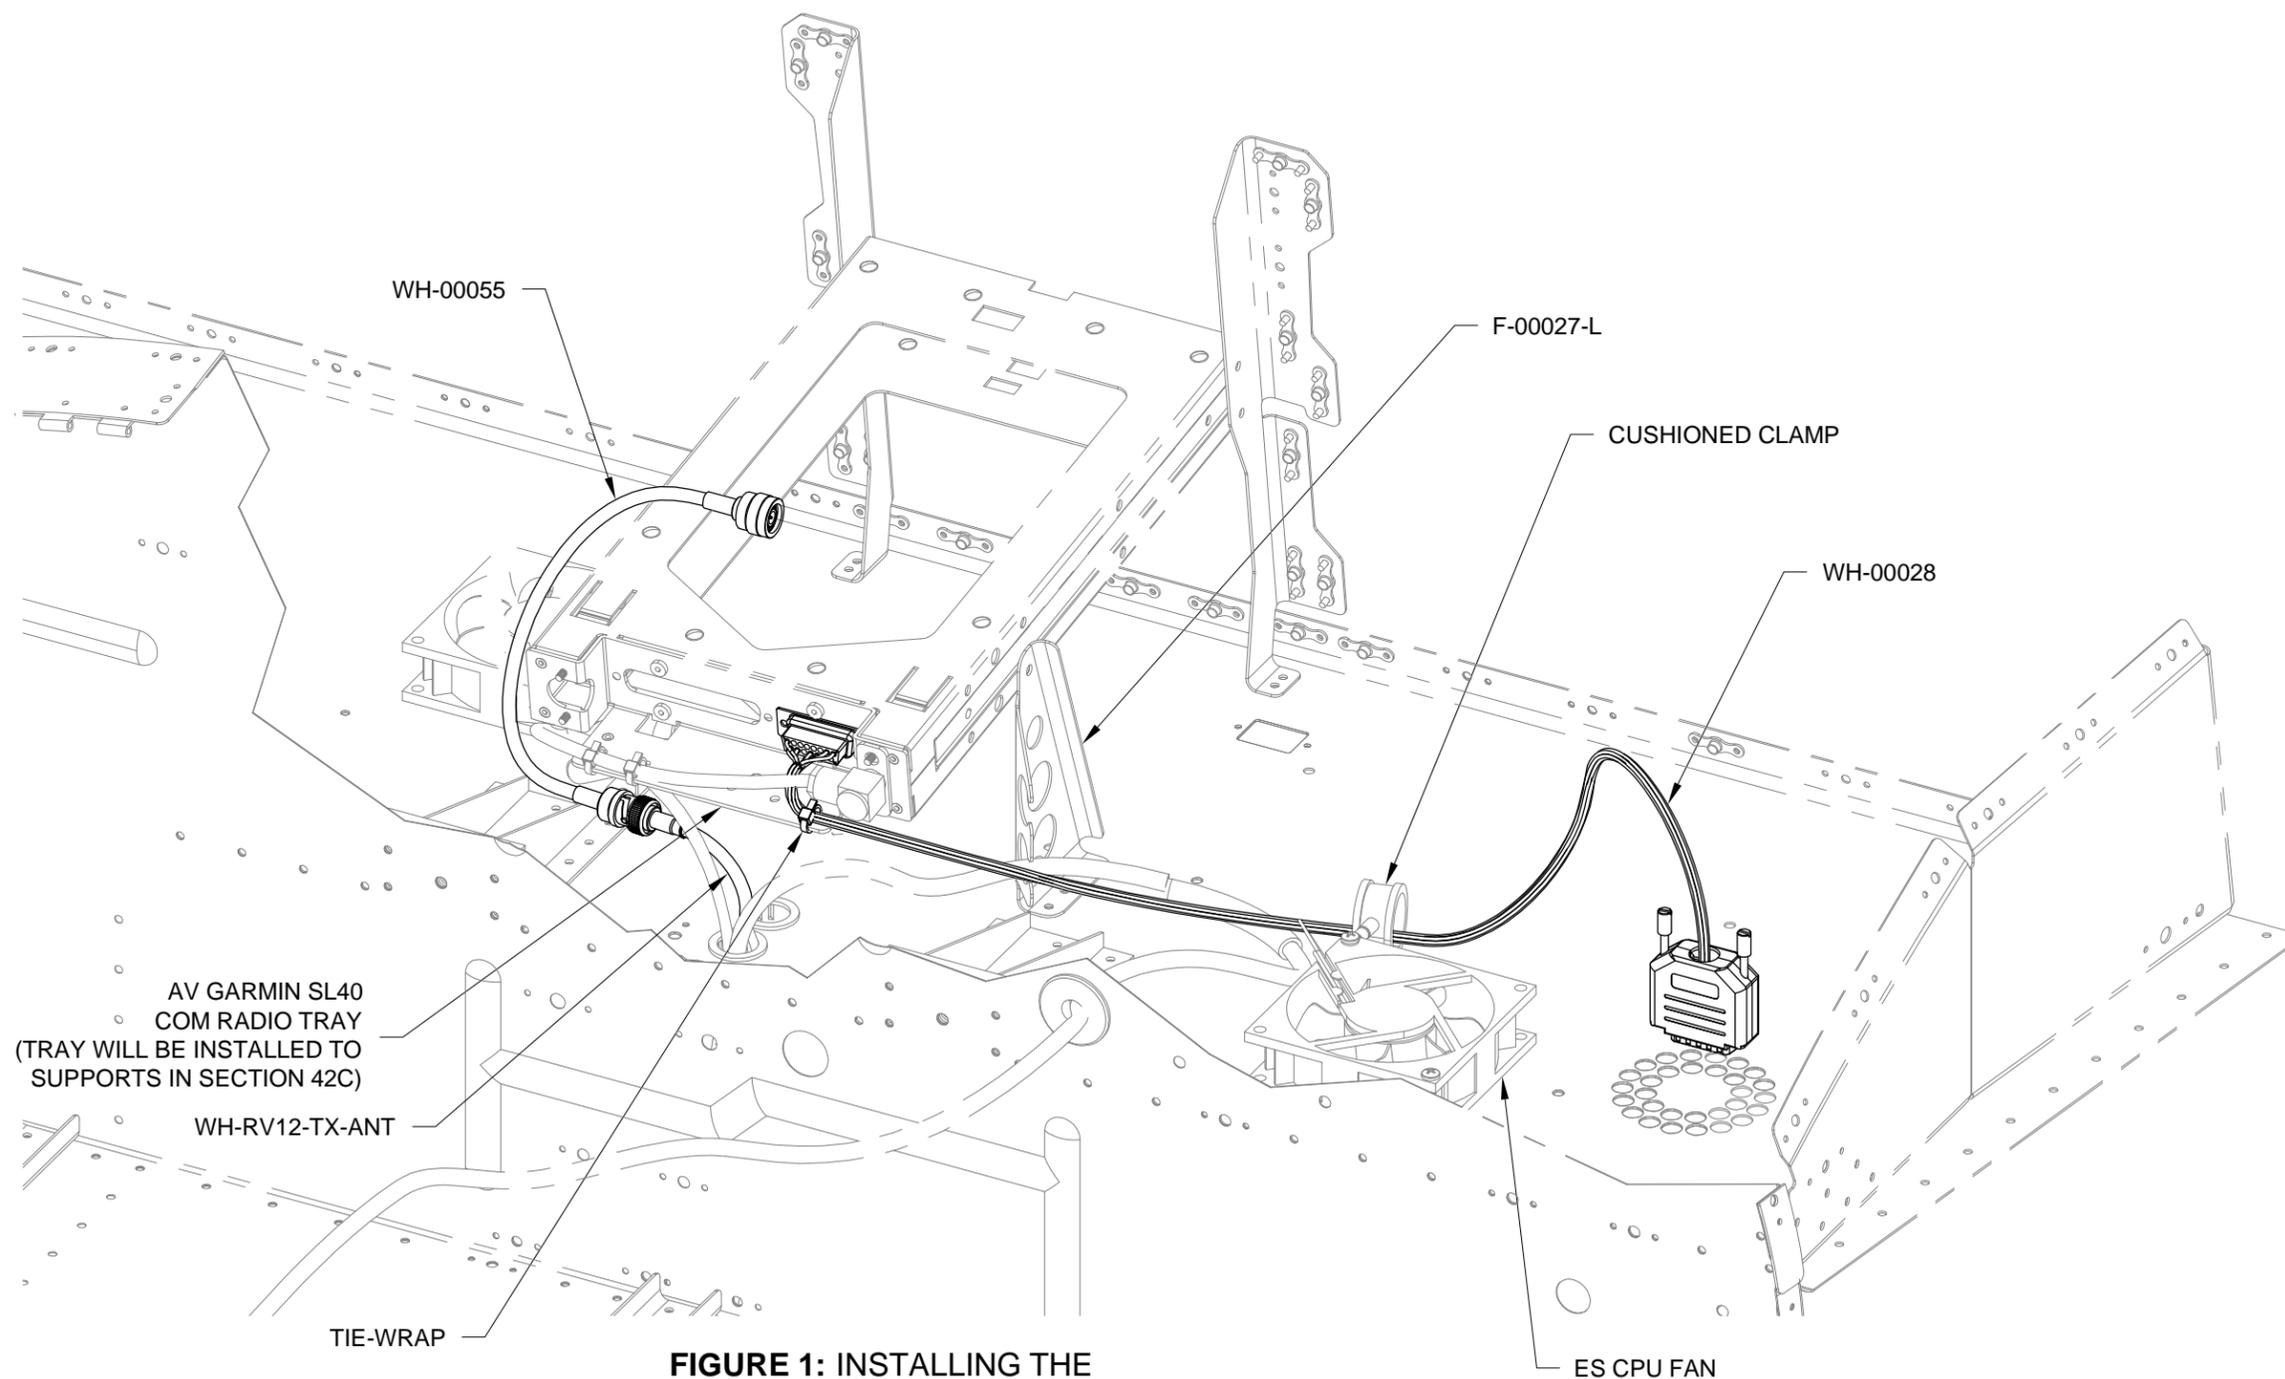

FIGURE 1: INSTALLING THE SKYVIEW SL-40 HARNESS
Step 3: Install the WH-00055 Xpndr Ant Cable Extension onto the end of the WH-RV12-TX-ANT Transponder Antenna Cable as shown in Figure 1.
Step 1: Pull excess wire from the the WH-RV12-TUNNEL and WH-RV12-OPTIONAL harnesses down through the F-1202B Panel Base until the backshells of these harnesses are in the approximate location shown in Figure 1.